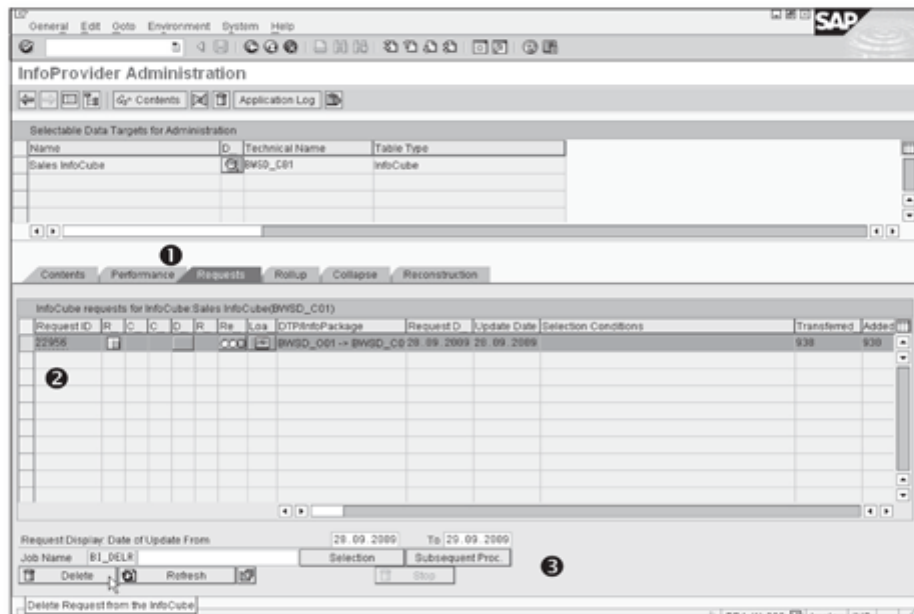
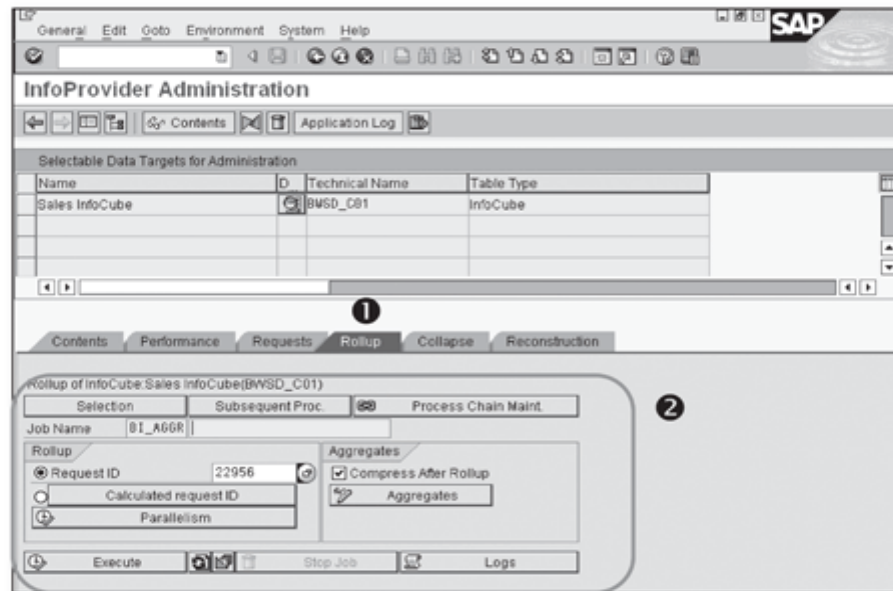
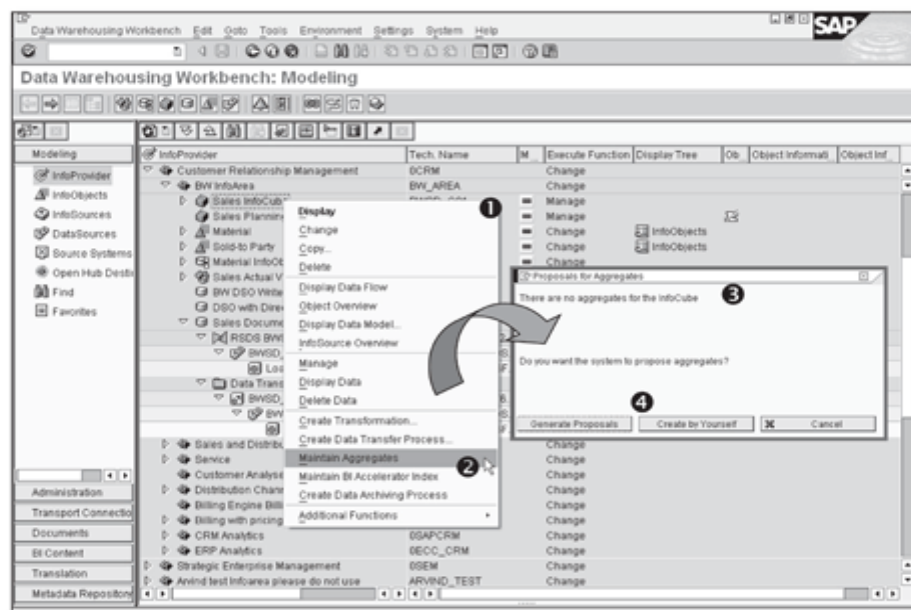
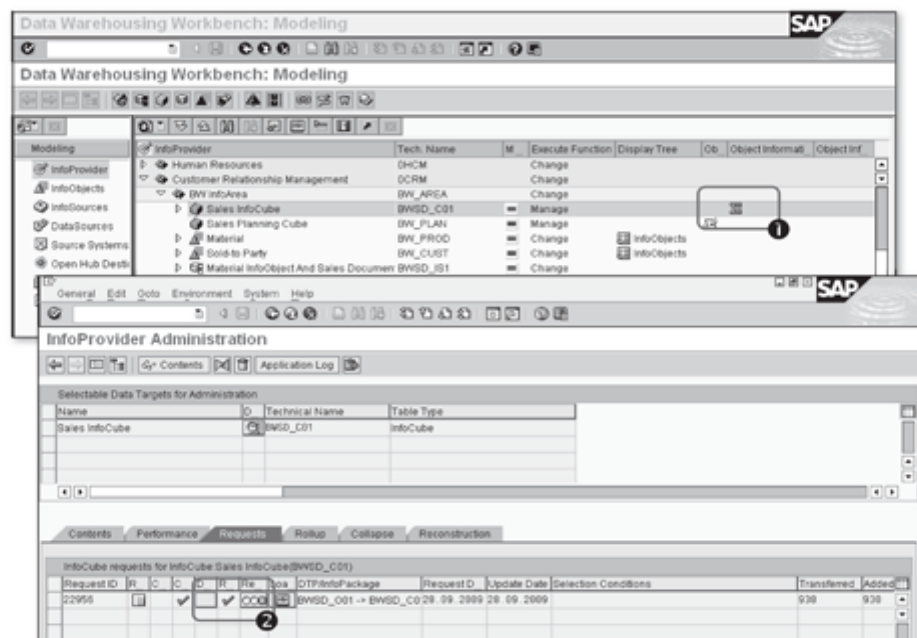

Figure 14.15 Request Tab for InfoCube Administration
Figure 14.16 Rollup Tab for InfoCube Administration
Figure 14.20 Maintain Aggregates for InfoCubes
Figure 14.27 InfoCube with Aggregate
The Rollup tab (❶ of Figure 14.16) has buttons that replicate part of the InfoCube data into a summarized subset called an aggregate. We explain the concept of aggregates in more detail in Section 14.3, Aggregates.
There are multiple options for identifying and creating aggregates, such as manual creation or the use of the Aggregate button (which is found in the Rollup tab in the InfoProvider Administration screen of an InfoCube; refer to Figure 14.16). In this section, we focus on manual creation of aggregates. To begin, choose Maintain Aggregates from the context menu of the InfoCube (❶ and ❷ of Figure 14.20). If there are no aggregates defined for this InfoCube, the Proposals for Aggregates pop-up box appears (❸). You can select Generate Proposals for the system to propose aggregates or click on the option Create By Yourself to manually create the aggregate (❹).
After the aggregate is created and activated, the information for the InfoCube gets added to it. Compare the details in the Object Information for the InfoCube BWSD_C01 both before the aggregate is created (refer to Figure 14.20) and then again after the aggregate is created. Note that the SUM icon is now visible for InfoCube BWSD_C01 (① of Figure 14.27).
Now compare the Request tab of the InfoCube for BWSD_C01 (refer to Figure 14.15) with the same tab in Figure 14.27, and you'll notice that there are additional details reported (❷). To maintain integrity in reporting, the new InfoCube data isn't available for reporting until the request is successfully rolled up into all of the aggregates for the cube. After this happens, the request record in the Requests tab for the InfoCube will be marked with the OK icon (✔).